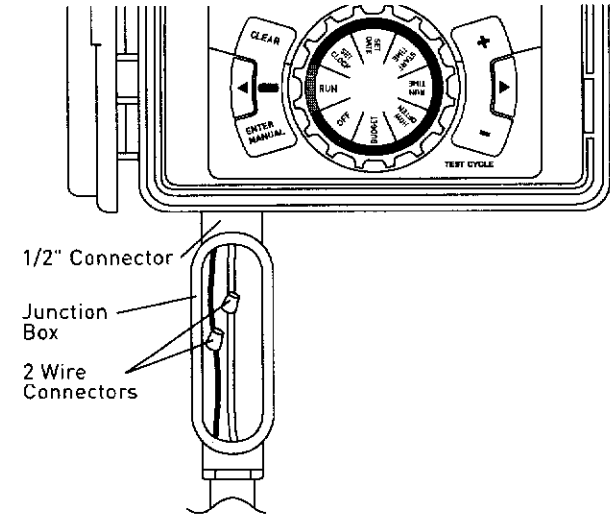

Figure 5: Using a Junction Box
**Outdoor Locations** – If a covered Ground Fault Interrupter (GFI) outlet is available, insert the power cord into the 110 volt outlet. If no outlet is available, the controller must have the wiring permanently installed (\*see figure 5)
- Connect the junction box to the controller using a 1/2" nipple (Junction box and nipple not included). [See Figure 5] Connect the source power conduit to the entrance of the junction box, following all the appropriate codes.